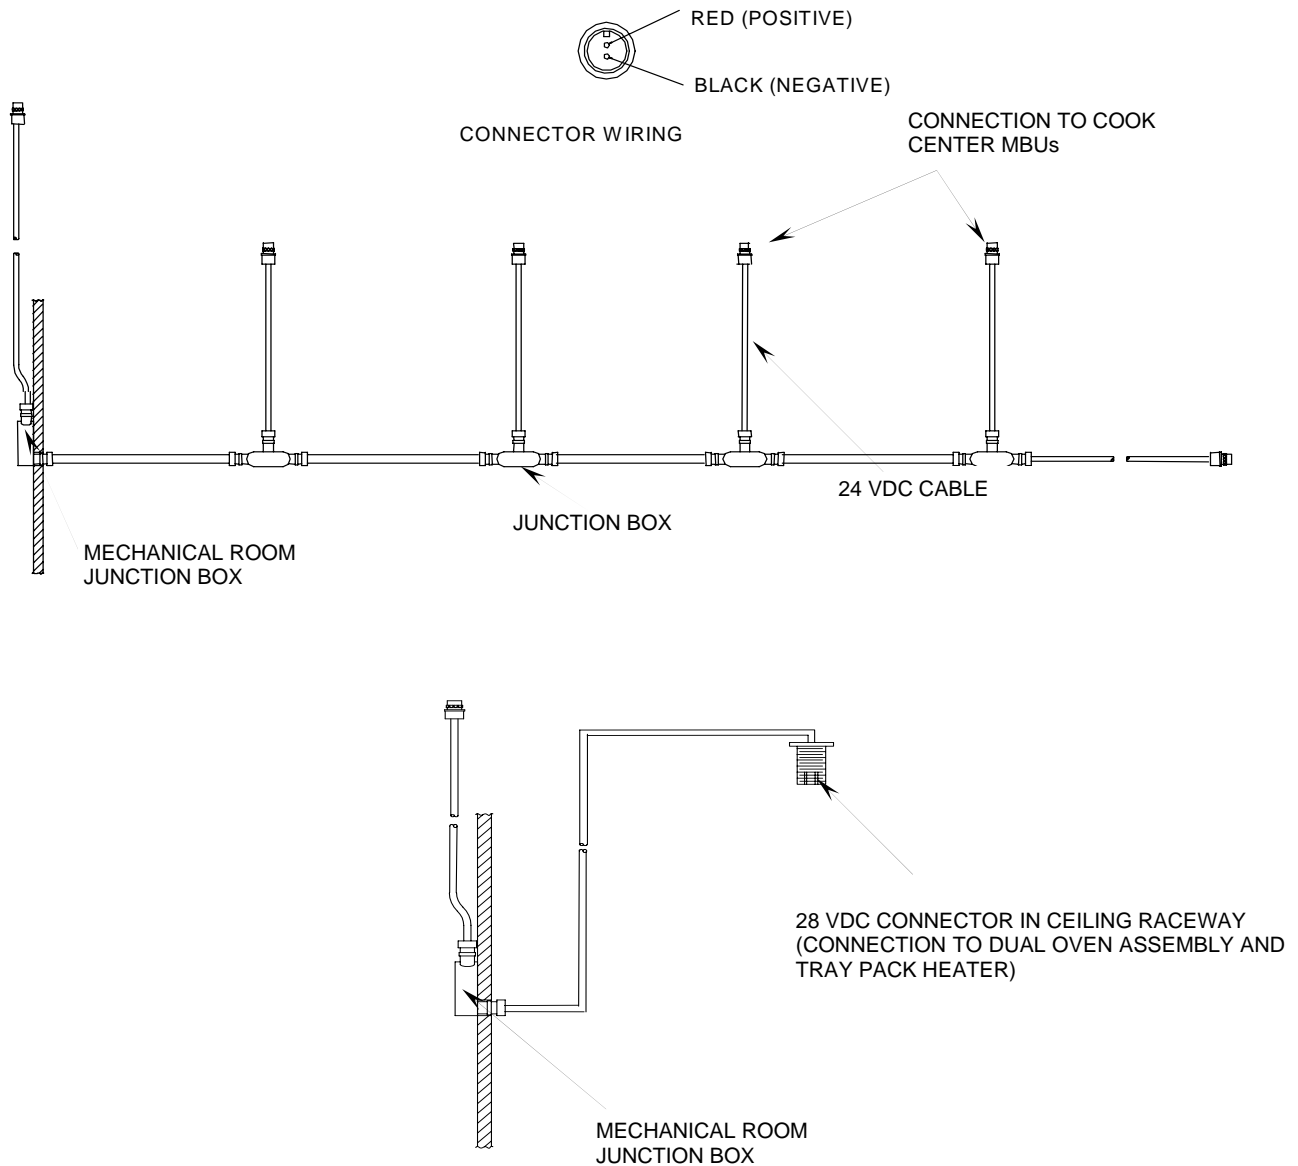

Figure 2. Cook Center 24 VDC MBU Cable Assembly.
2. Remove the cover from the junction box under the cook center, tag and disconnect the wires and pull the cable assembly through the junction box and up through the cook center frame (see Figure 2).